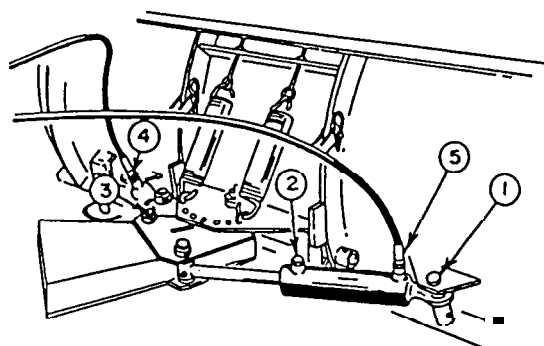

FIGURE 3
- a) Install base end of the two cylinders on the blade (cylinder ports on top side) using two  $7/8" \times 2 7/8"$  pins (fig.3, item 1). Lock the pins on the underside with  $1/4" \times 1 3/4"$  bolt & nylon lock nut.
- b) Place a breather plug (fig.3, item 2) in the rod end port of each cylinder using thread sealant.
- c) Attach rod end of each cylinder to the female quick hitch (grease fittings outward) using the  $3/4" \times 3"$  pins (fig.3, item 3). Lock the pins on the upper side of the female quick hitch with  $1/4" \times 1 1/2"$  bolt & nylon lock nut.
- e) Install the other end of the **40"** hose to the base end port of the left hand cylinder (fig.3, item 4) using thread sealant, and identify this hose with the green plastic ring. Attach the other end of 33" hose to the base end port of right hand cylinder (fig.3, item 5) using thread sealant, and identify this hose with the yellow plastic ring.